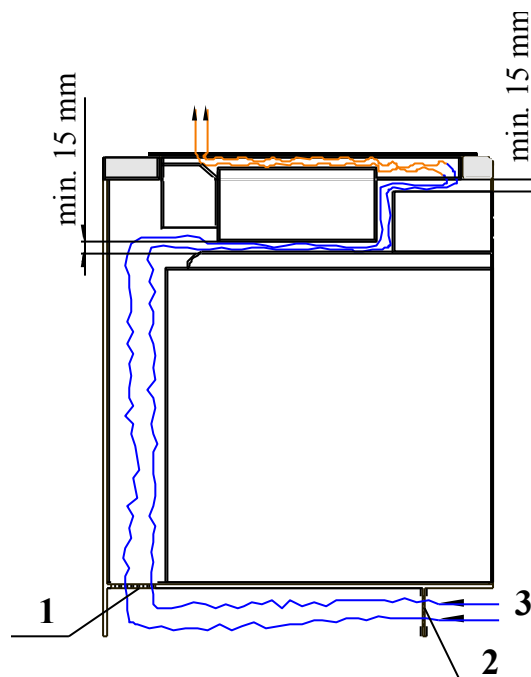

Fig.4 Hob with oven arrangement
- Because of the need to assure circulation of air, an air inlet grate should be installed in the skirting of the cabinet **fig. 4**.